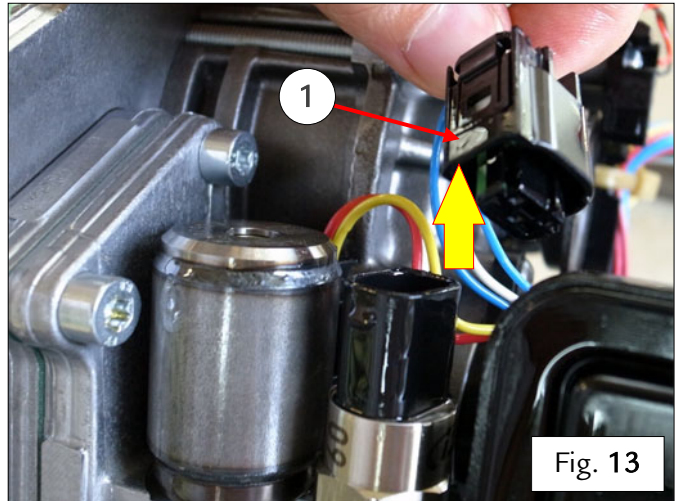

Fig. 13
- Detach the connector from the sensor while keeping the retainer clip pressed (1) – Fig. 13.